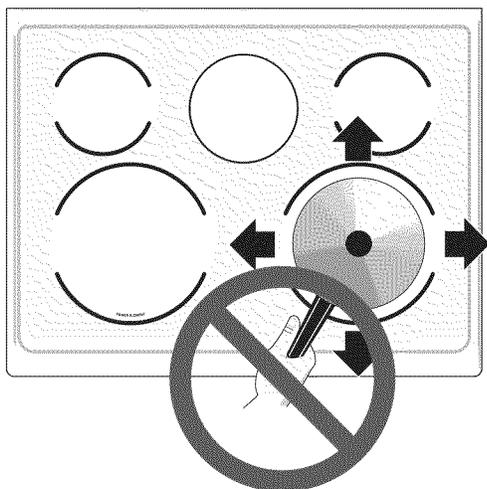

Fig. 1
- Slide anything metal or glass across the cooktop (See Fig. 1).